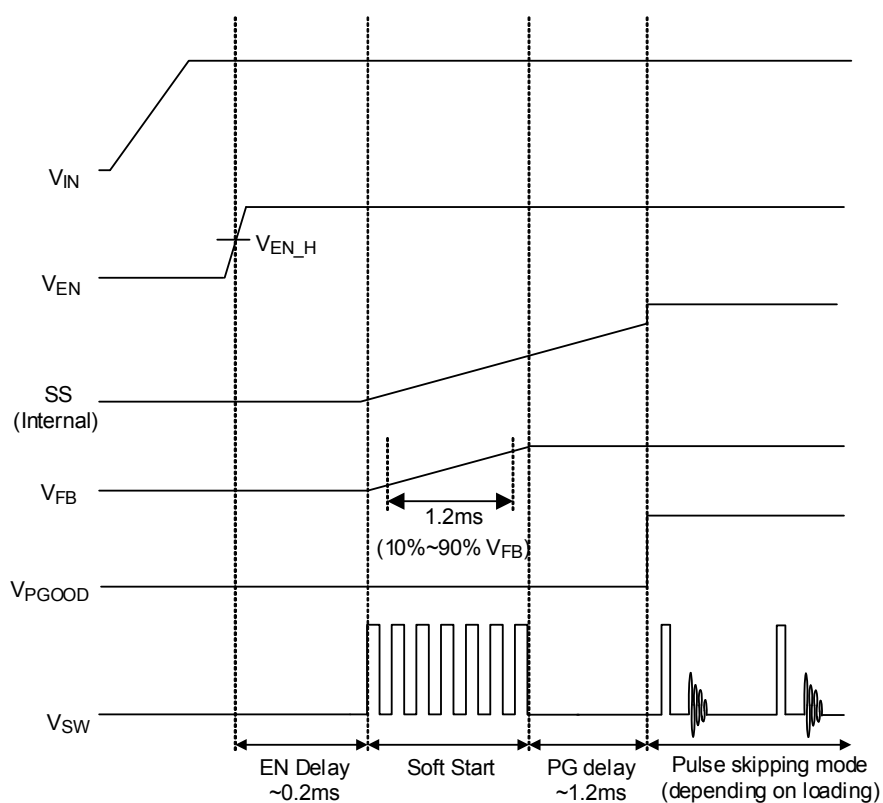

Figure 1. Power-Up Sequence Following Internal Soft-Start
The enable input (EN) has a logic-low level of 0.74V. When V_{EN} is below this level, the IC enters shutdown mode and supply current drops to less than 1 μ A. When V_{EN} exceeds its logic-high level of 0.92V, the IC is fully operational. When V_{EN} exceeds its logic-high level, the pre-regulator turns on first. The power-up sequence from EN logic high to PGOOD going high is shown in Figure 1.